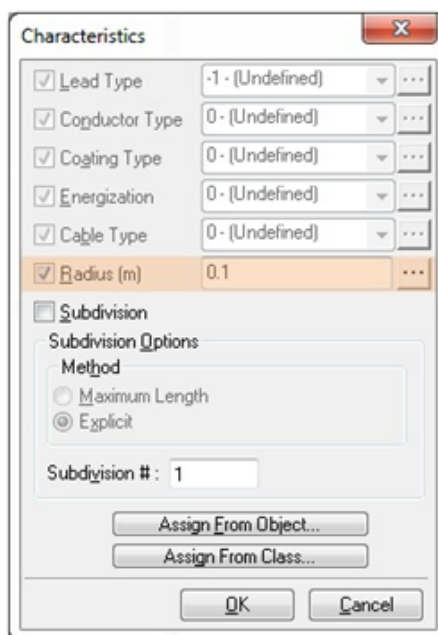

Figure 6: Specify a new radius in the **Characteristics** screen
6. From the **Characteristics** screen, set the radius of the conductor to be 0.1 m (about 4.0 in). Figure 6 illustrates this.
8. Finally, increase the radius of the conductors so they can be properly displayed in SESShield-3D. To realize that, select all the objects (**Edit | Select All**) and edit their characteristics (**Edit | Characteristics**). From the **Characteristics** screen, set the radius of the conductor to be 0.1 m (about 4.0 in). Figure 6 illustrates this step.